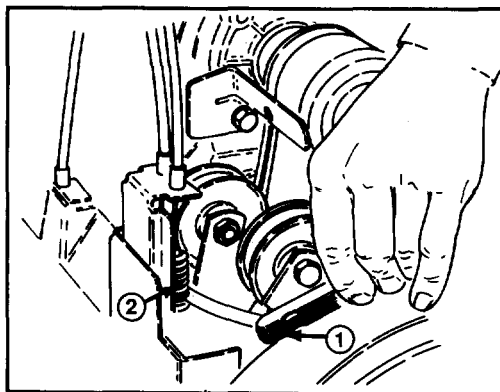

Figure 25
2. **CHECKING IMPELLER CABLE ADJUSTMENT**—With the engine off, depress the impeller lever on the right handgrip. Hold the lever and insert a .010" (.25mm) feeler gauge between the coil in the center of the spring (Fig. 25). Adjust the cable to achieve .009" - .012" (.23mm - .3mm) gap between the coils.